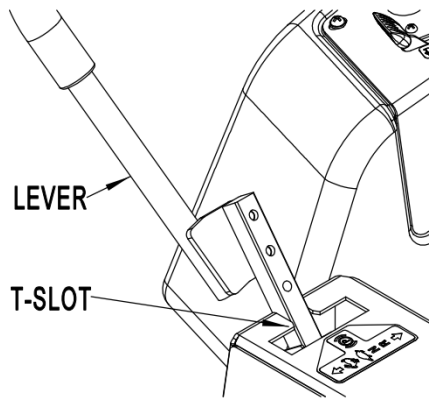

Fig. 8
- When the steering levers are centered in the T-slot, the drive system is in the neutral lock position. Place both steering levers in swing-out neutral lock position, the drive system is in the parking brake position. (Refer to Fig. 8)